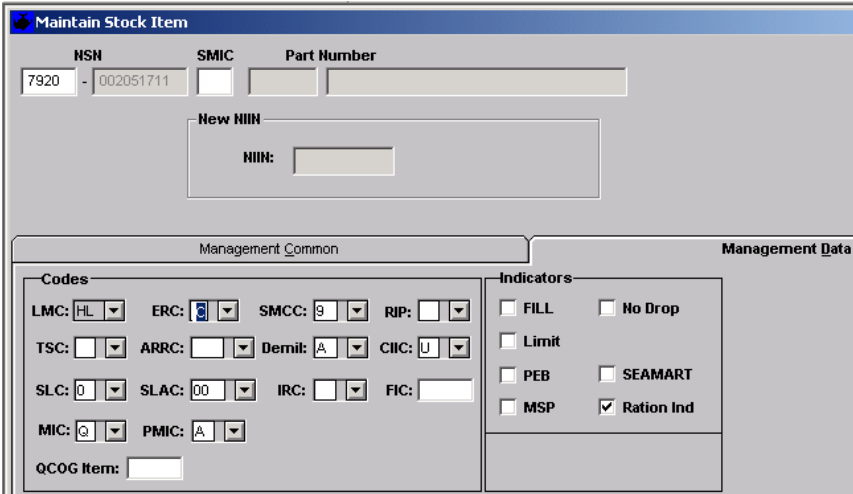

Figure 5.5
5.1.4 The Management Data tab (*Figure 5.5*) displays specific validation information about the requested NIIN. Modifiable fields can be changed by entering a value or by choosing a value from the drop-down lists provided.